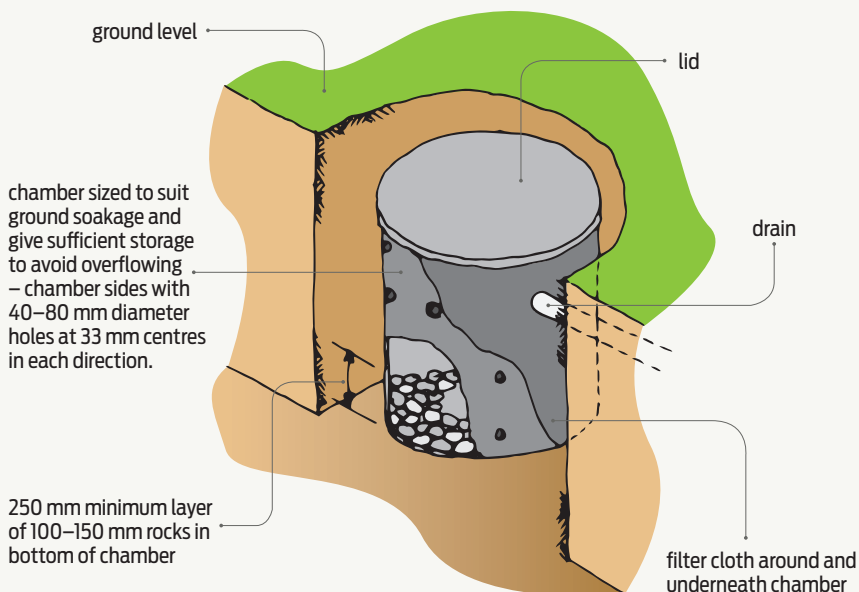

Figure 2 Chamber soak pit.
- a lined underground chamber with porous sides and base (see Figure 2), into which surface water can drain and be dispersed by percolation or soakage into the surrounding soil